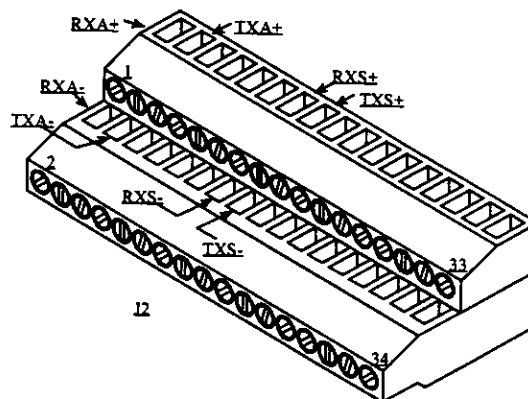

Figure 7-11 J2 TERMINAL BLOCK
2. Inject a 1 kHz tone from a balanced 600 ohm source, at the level determined by the type of line used, into TXA+ and TXA- of J2 located on the back of the Repeater (see Figure 7-11).